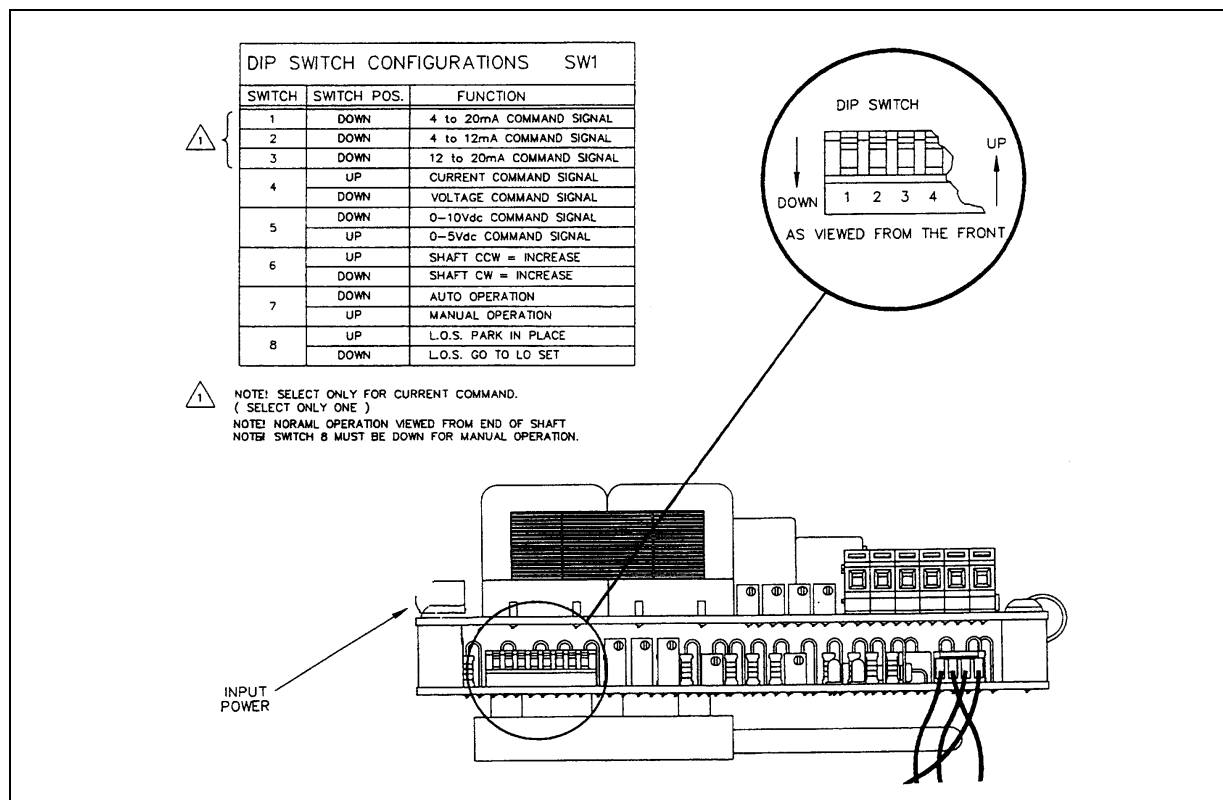

Figure 22. Dip Switch Configuration.
3. Set the dip switches 1 through 8 for proper operation: (Down position activates switch.) See Figure 22 for chart.